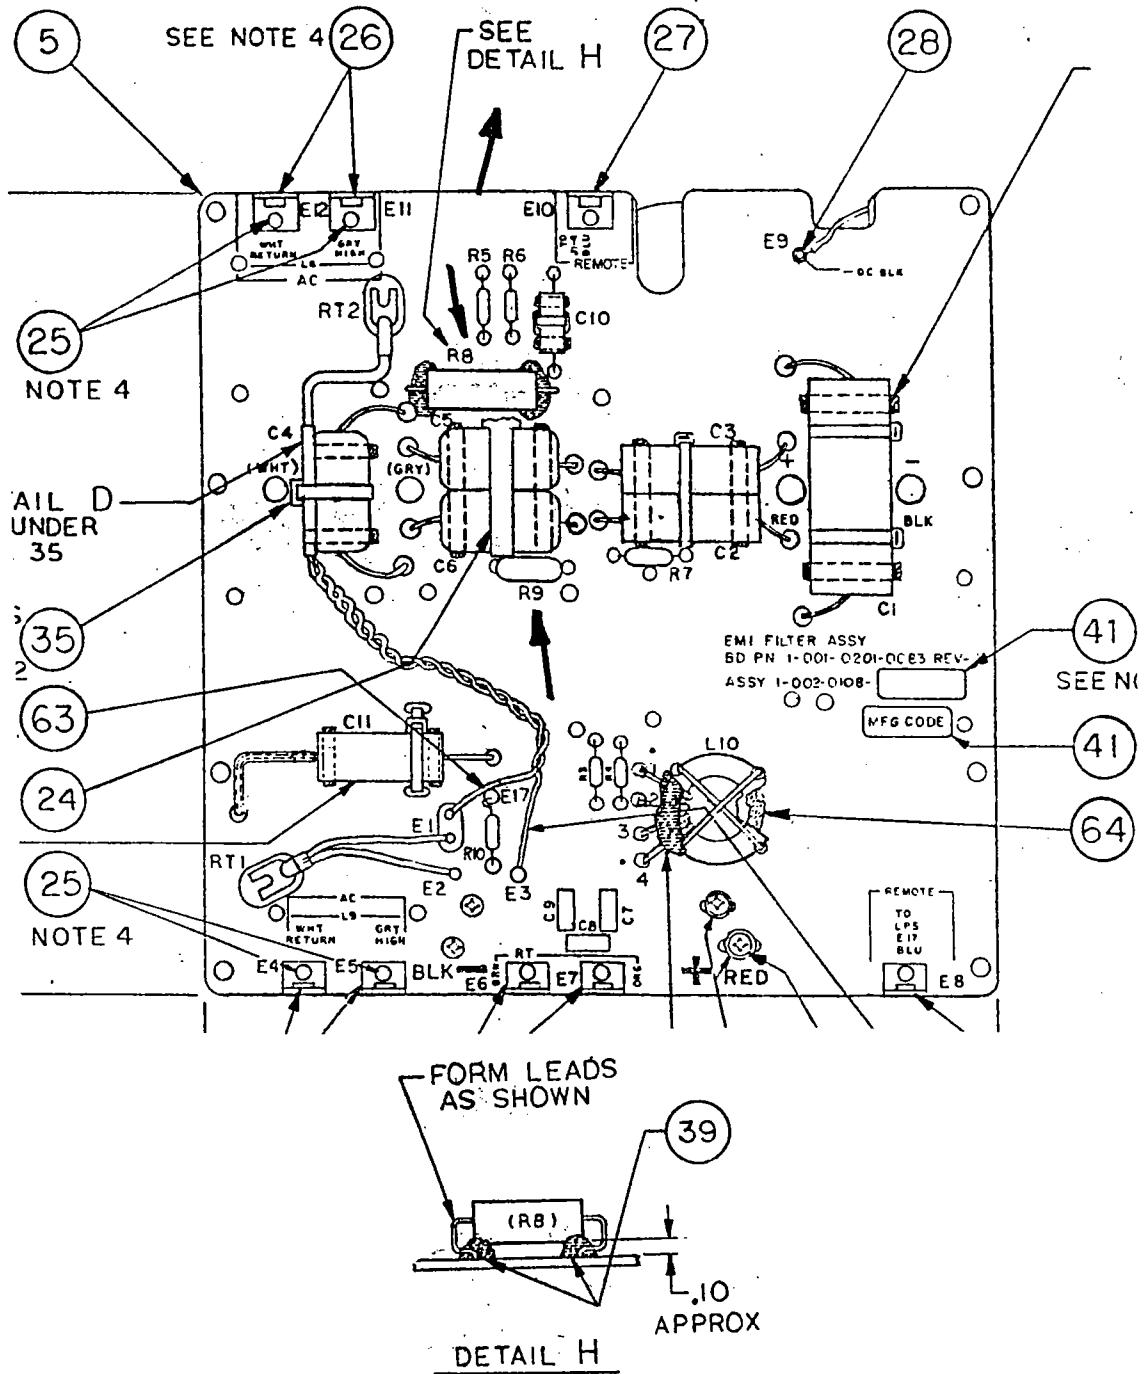

FIGURE 4
14. Form new R8 resistor (P/N 1-001-0607-0066) as shown in figure 4 detail H.
15. Place two dollops of RTV Silicone Sealant, Item (39) on PCB as shown in figure 4 prior to installation of resistor R8.